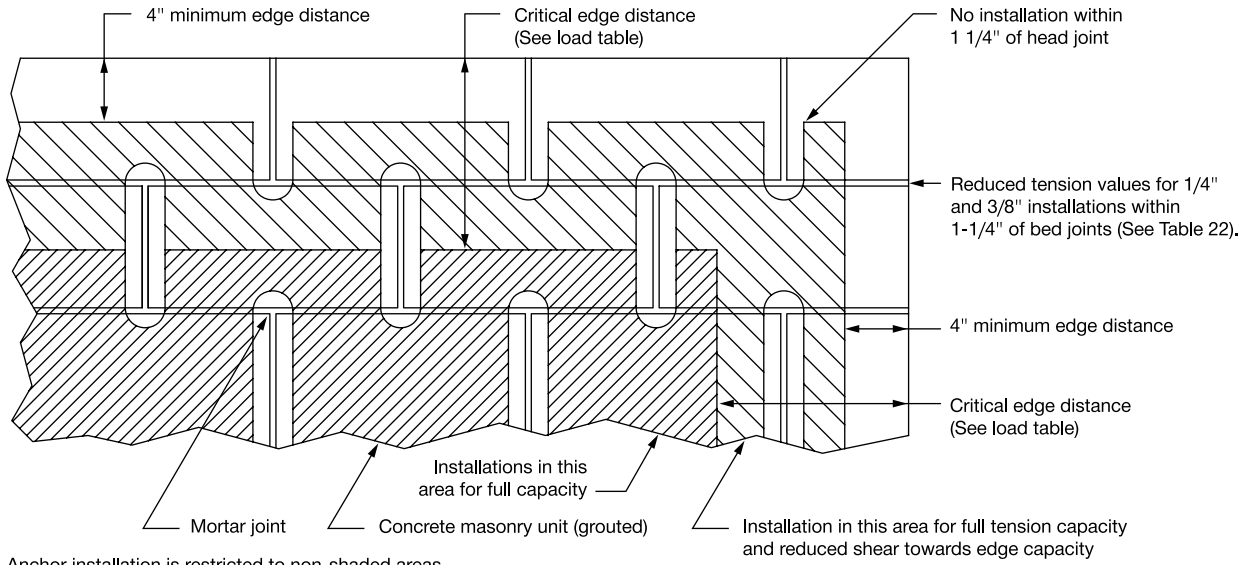

Figure 5 – Acceptable locations (shaded areas) for Hilti KWIK HUS-EZ anchors in grout-filled concrete masonry
- See figure 5 for anchor locations.